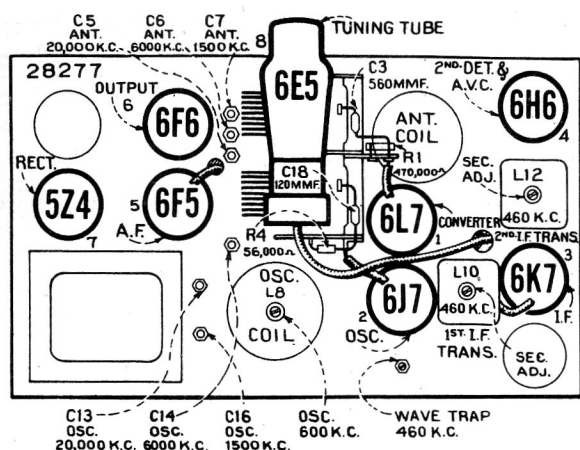

Figure 3—Radiotron, Coil, and Trimmer Locations
- Adjust the two magnetite core screws (see figures 3 and 7) of the second i-f transformer (one on top and one on bottom) to produce maximum vertical deflection of the oscillographic image. This adjustment places the transformer in exact resonance with the 460-kc signal.